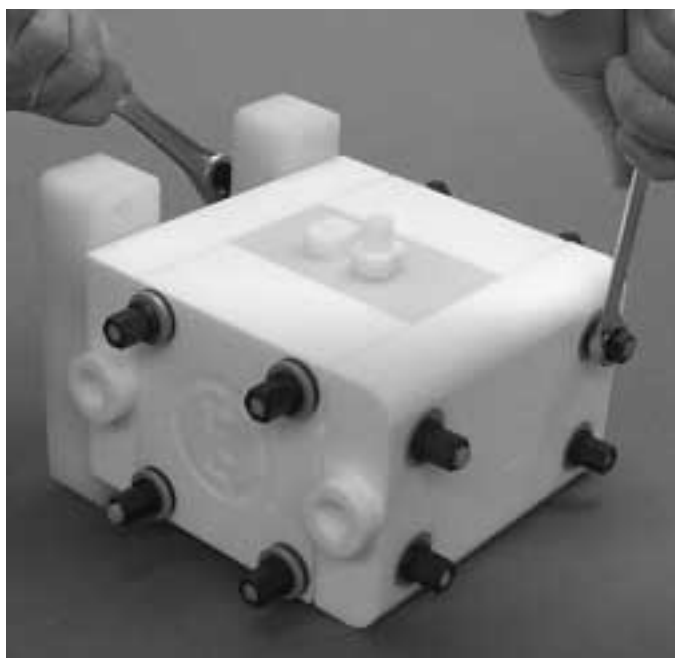

Figure 1
The Wilden model P.050 (*Figure 1*) is an air-operated, double-diaphragm pump with all wetted parts of Teflon[®] PTFE. The single-piece center section, consisting of the center block and air chambers, is molded from PVDF. All fasteners and hardware are constructed of engineered plastics. The air valve is manufactured of PVDF. All O-rings used in the pump are of special materials and should only be replaced with factory-supplied parts.
Step 1. *Figure 1*
Remove air valve screws from center section with a ½" hex key (Allen wrench) (*Figure 1*).